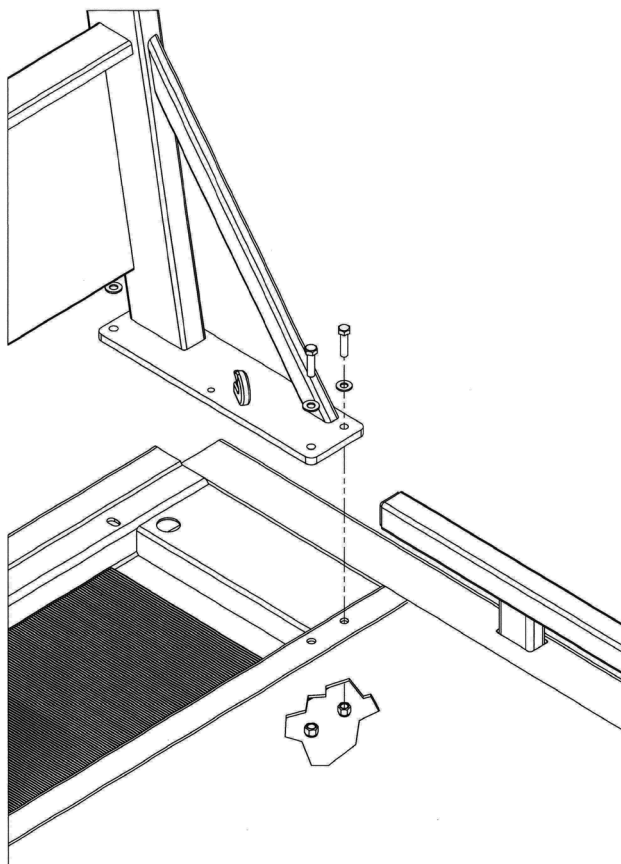

FIGURE 7.17
- (a) Install light mounting bar to carrier bed as shown in Figure 7.17.